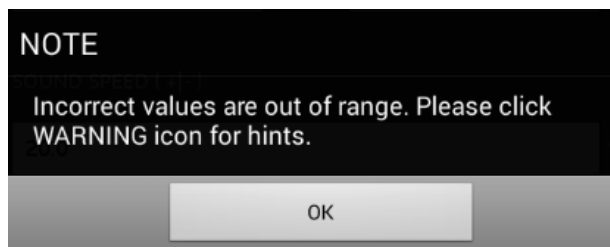

Figure 65: Error Limits range warning
- Each of upon items has a range limit, if the input value beyond the limitation, an error message will occur like figure 65.